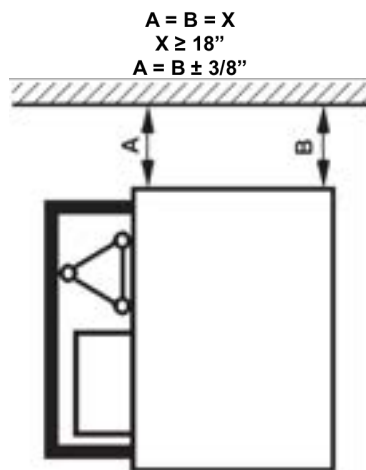
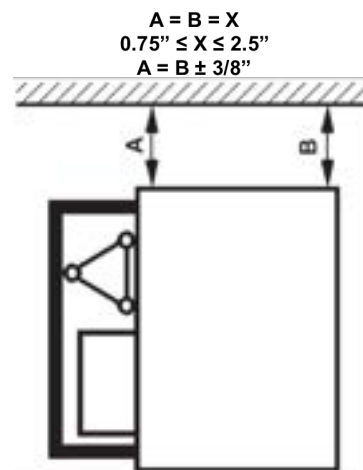

Figure 6.5
Figure 6.6
- **this distance must not be less than 18 in. if installing the unit as a Transport Platform as indicated in ANSI A92.10 as shown in figure 6.5 (if using landing doors for a transport platform supplied by BETA MAX set the unit 24 inches from the building for the door to function properly) or if installing the unit as a Material Hoist is not greater than 2.5 in. as shown in figure 6.6 to ensure the loading unit passes through with no difficulty and no risk of collision**